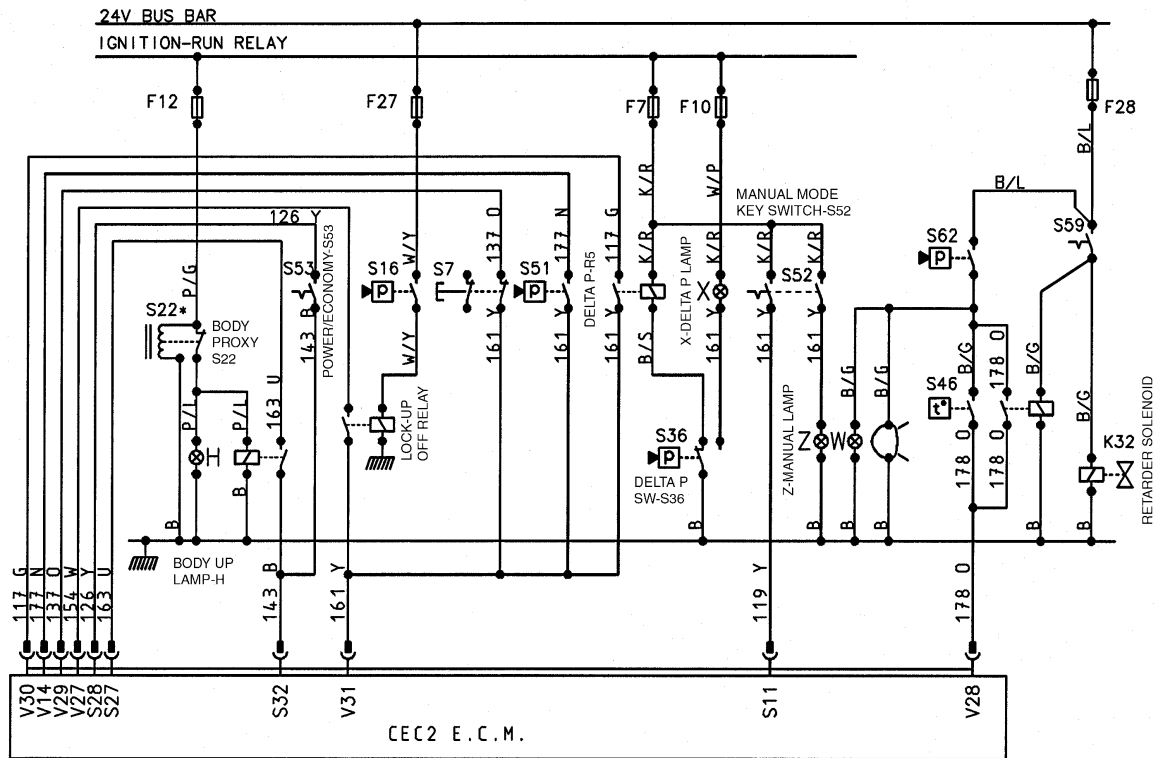

Fig. 21 - VEHICLE INTERFACE - ALLISON CEC2; - INPUT CIRCUITS
Refer. Fig. 21 & 22
11. **Manual Mode Key** - The manual mode key, mounted on the interface box, is defined as (S52) - Ref. Fig. 21. The signal to switch from automatic mode to manual mode is received at ECU shifter connector (S), pin 11, wire 119. For manual/automatic mode functions, please refer to CEC-2 COMPONENTS, Descriptions and Operation.
12. **Power/Economy Key** - The power/economy key, mounted on the interface box, is defined as (S53) - Ref. Fig. 21. The signal to switch between power and economy mode is received at ECU shifter connector (S), pin 28, wire 126. For power/economy mode functions, please refer to CEC-2 COMPONENTS, Descriptions and Operation.